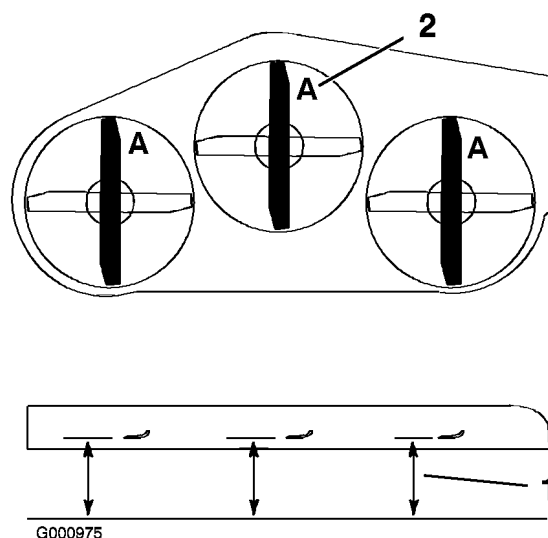

Figure 55
3. Rotate the blades until the ends face forward and backward (Figure 55). Measure from a level surface to the cutting edge, position A, of the blades (Figure 55). Note this dimension.